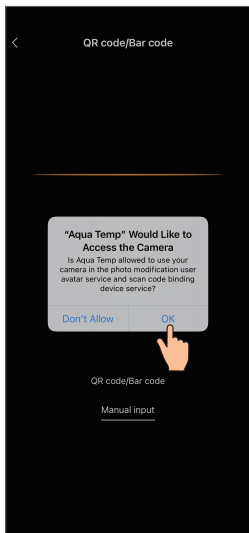
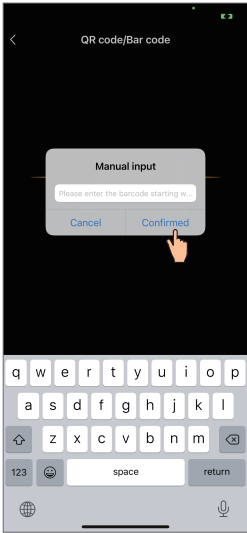

Fig.17 Enable camera permission
Fig.19.2 Manual input interface
- 8. Click "OK" (Fig.17) to allow the App to use the camera for scanning the WF code on the WIFI module (Fig.19.1), or click "manual input" to enter the WF code(Fig.19.2).